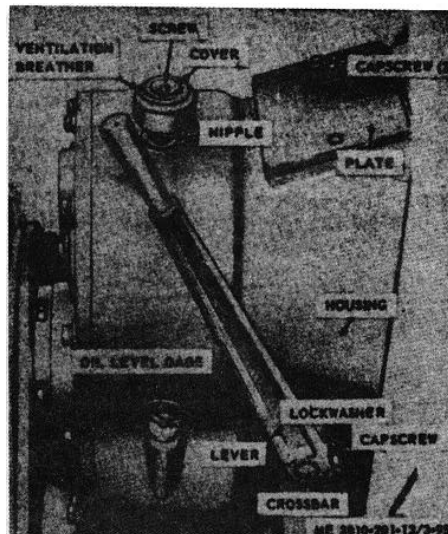

Figure 3-82. Auxiliary clutch lever and ventilation breather, removal points.
a. *Removal and installation.* Refer to figure 3-82, remove capscrew and lockwasher from lever, then remove lever from crossbar. Install in reverse order.
(1) Clean lever and mounting hardware in an approved cleaning solvent and dry thoroughly.
(2) Visually inspect lever for bend, crack, or excessive wear. Inspect hardware for burs, or stripped threads.
(3) Repair by replacing worn or defective parts.
(1) Refer to figure 3-82, remove screw, and cover, from ventilation breather (filter).
(2) Remove ventilation breather (filter) from nipple by turning counterclockwise. Remove a damaged nipple.
(3) Install in reverse order.